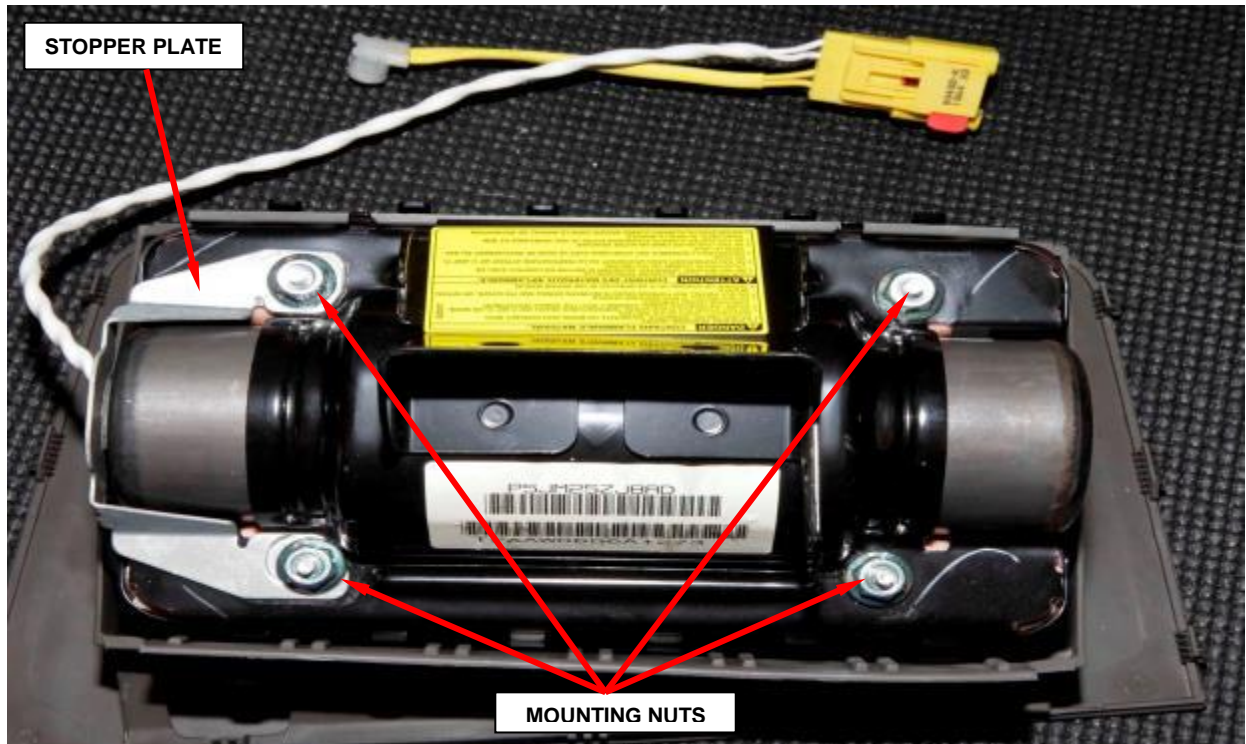

Figure 97 – Mounting Nuts and Stopper Plate
e. Remove and discard the four mounting nuts and stopper plate from the passenger airbag module (Figure 97).